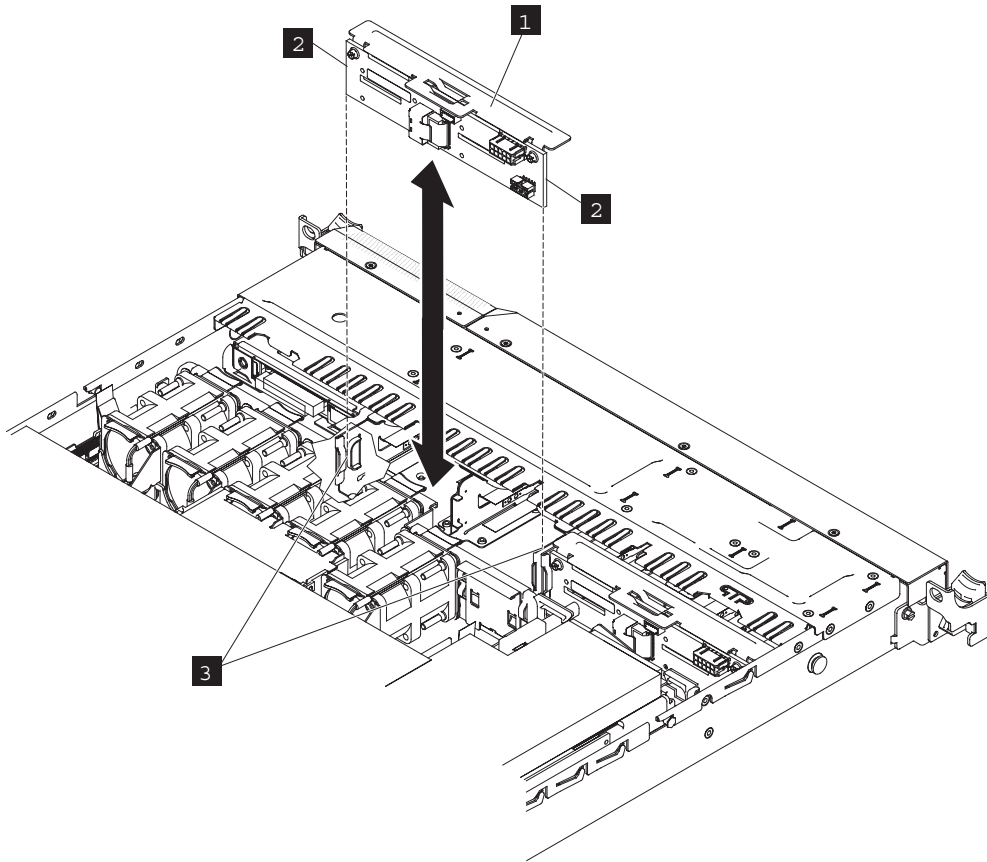

Figure 112. The 2145-CG8 boot-disk backplane
12. Lift up the disk-drive backplane (**1** in each of the following two illustrations to disengage the backplane edges (2145-CG8) or tabs (2145-CF8) (**2**) from the slots (**3**) on a backplane bracket. In the 2145-CG8 node, pull up slowly on each backplane until it is clear of the slots on the bracket and remove it from the node, as shown in Figure 112 on page 126.